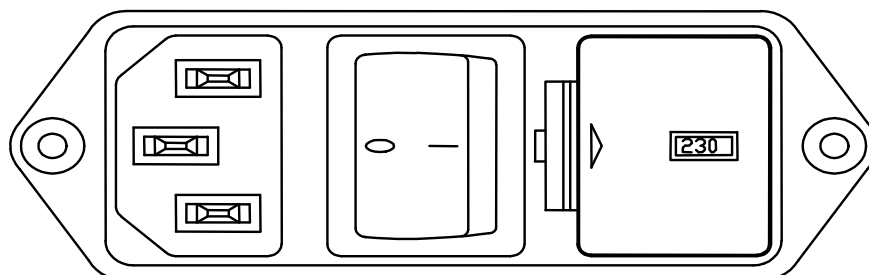

Figure 3 "Power Module"
Figure 3 "Power Module"	5
On the left panel (right, in the back view!) there is the slot (32) on which the power module (see Figure 3 "Power Module") is installed.
To inspect and/or replace the fuses, **disconnect the mains cable first!** Insert a miniature screwdriver in the slot indentation, see Figure 3 “Power Module”, and snap out the slide which houses the fuses.